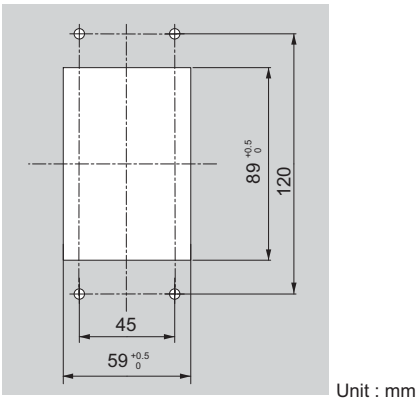

Figure 2.12 Panel Cut-Out Dimensions (Internal/Flush-Mount Installation)
1. Cut an opening in the enclosure panel for the digital operator as shown in Figure 2.12.